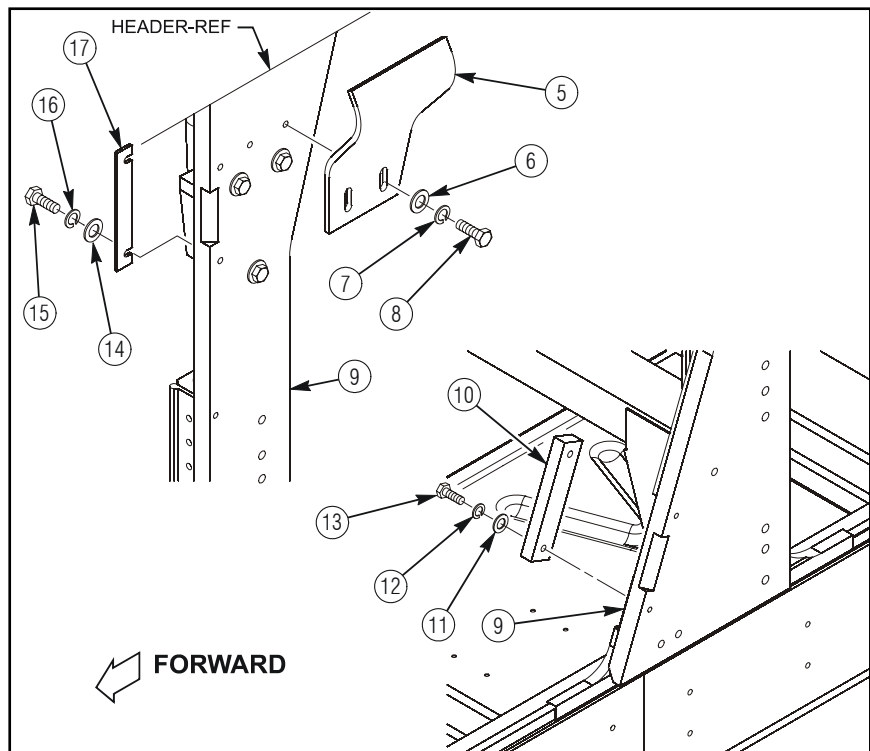

Figure 14b.
22. Apply a bead of sealant at the joint between header and B-pillar plate (9). Refer to figure 14b.